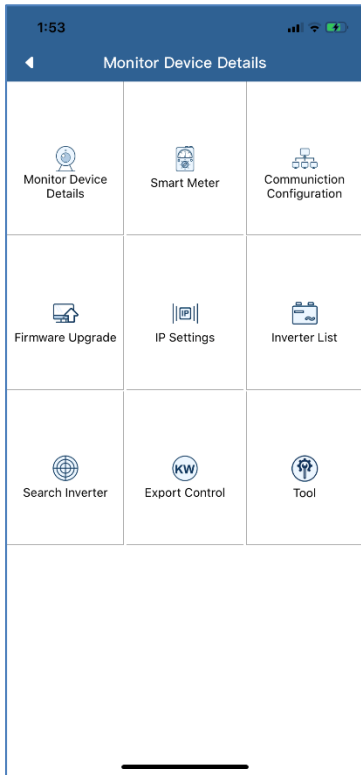
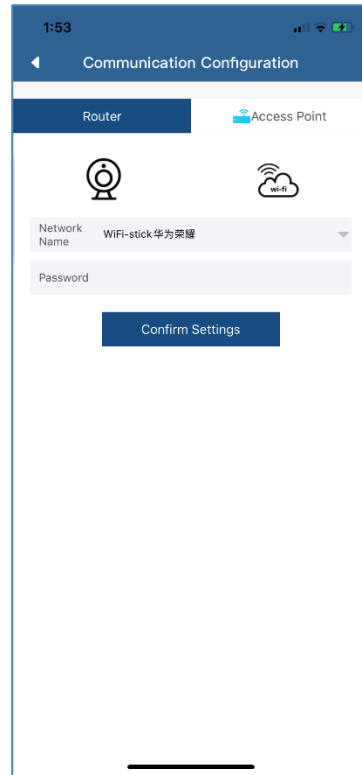

Figure 2-3-5 Communication configuration
Figure 2-3-6 Communication configuration
Step 3: Select the Monitor Device Details→to enter the Communication Configuration (as shown in Figure 2-3-5). If both WIFI and Ethernet are connected, two devices with the same serial number will appear, but the IP is different. Configure the connection of WIFI of the monitor device to the user’s router (the router needs to be able to access the Internet) on the router page. The user can manually enter the name of the home router (SSID) in the network name or click the down arrow in the red circle to select the name of the WIFI signal detected by the monitor device, then enter the router password and click “Confirm Settings” to complete. As shown in Figure 2-3-6.